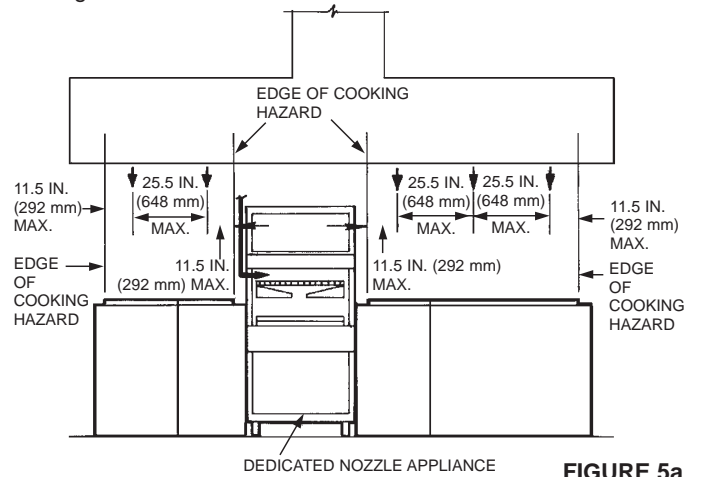

FIGURE 5a
7. When appliances requiring dedicated nozzle coverage are located within the overlapping appliance nozzle protected area, the overlapping appliance nozzle spacing must start with the appliance(s) adjacent to the dedicated appliance. See Figure 5a.